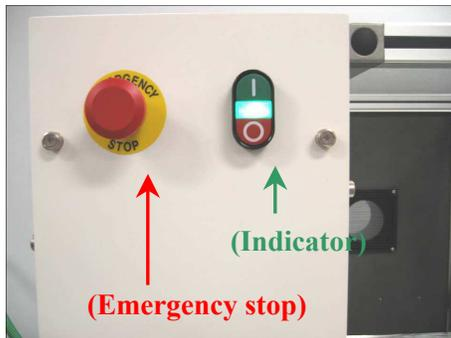

Figure 1.3: Green light indicator shows the machine in stand by status
- Machine is normally ready for use with a green LED indicator in the front side (Figure 1.3). There is “NO” need to press the Power ON/OFF button before and after usage